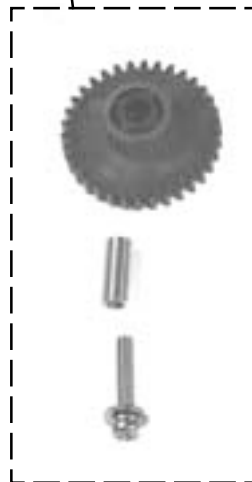

Figs. 9-14
11.	Refer to Fig. 9-8d and Fig. 9-14c Remove the "E" clip and pulley from bracket. Route the drive belt over the gear. Insert the gear shaft through the hole in the printer wall. Attach the bracket to the printer wall from the opposite side with (4) screws provided. Install the "O" ring pulley, shoulder side first and reattach the "E" clip to the end of the shaft. Attach belt from the gear on this assembly to the gear on the idler pulley as shown in Figs. 9-14 .
12.	Refer to Fig. 9-8c and Figs. 9-14d Attach the tension roller to the printer as shown in Figs. 9-14 with hardware provided. Attach right screw first then attach and tighten the screw in the adjustment slot.